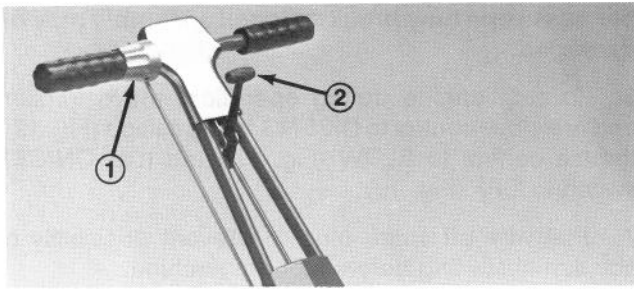
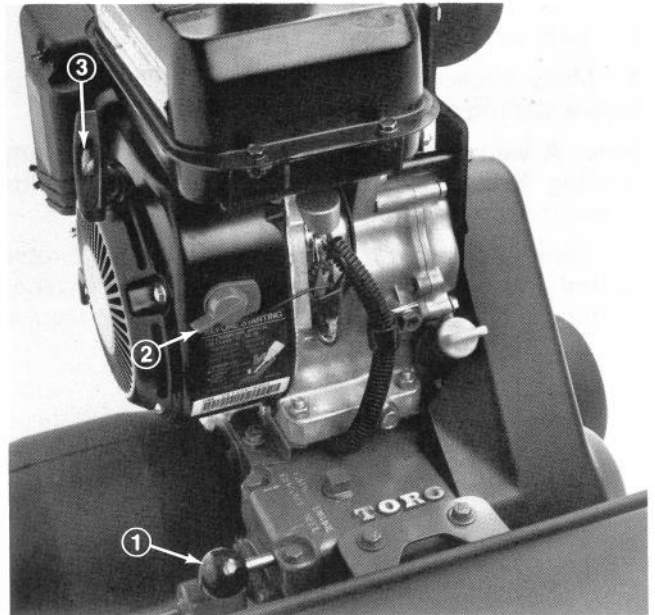

Figure 17
Figure 19
Throttle Control (Fig. 17) — Twist grip control which connects to and operates throttle linkage to carburetor. Control has two positions: SLOW and FAST. Engine speed can be varied between the two settings.
Clutch Control Lever (Fig. 17) — Located at center of handle. Connects to and controls drive linkage to traction drum. Control has two positions: ENGAGE and DISENGAGE.
Reel Drive Control (Fig. 19) — Control knob, located on right side transmission, has two positions: ENGAGE and DISENGAGE. Pull out knob to engage reel drive gears. Push in to disengage.
Engine Stop Switch (Fig. 19) — Located on front of engine. Rotate to OFF to stop engine.
Recoil Starter (Fig. 19) — Pull recoil starter handle to start engine.
3. Turn ON/OFF switch to ON (Fig. 19)
5. Stand behind the machine, move the throttle control grip to mid throttle position (Fig. 17). Pull recoil starter handle out until positive engagement results.
6. To stop engine during operation, move traction and reel drive control to DISENGAGE position (Fig. 19), throttle control to SLOW (Fig. 17) and turn ON/OFF switch to OFF (Fig. 19).